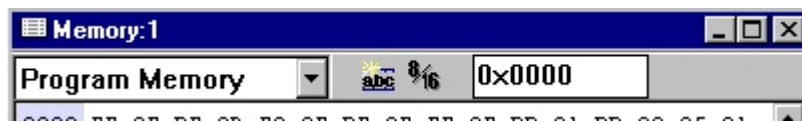

Figure 7: Memory Window Display Configuration
2. Use the “View → New Memory View” (Alt + 4) to open a Memory Window. Once the Memory Window is open, select Program Memory and “16-Bits” (**Figure 7**). What are the contents at Program Memory location 0x0000? _____.